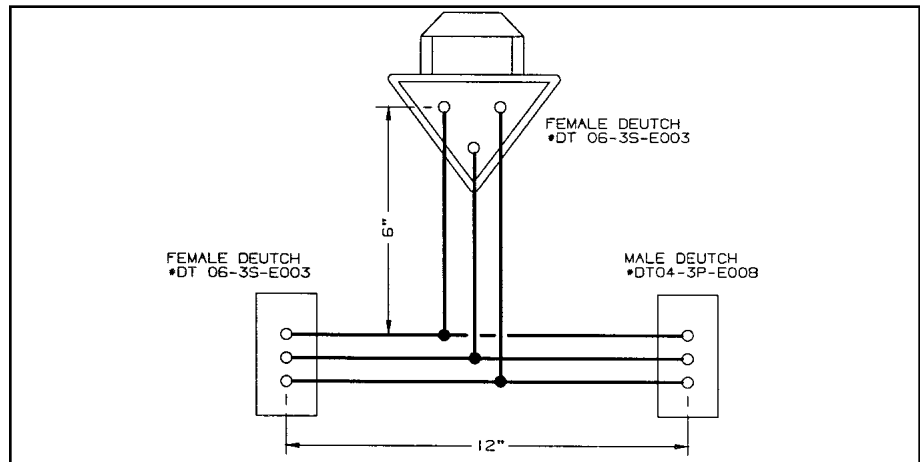

Figure 1
4. Using Caterpillar crimping tool, #1U5804, crimp the terminals onto each wire. See **Figure 1**.